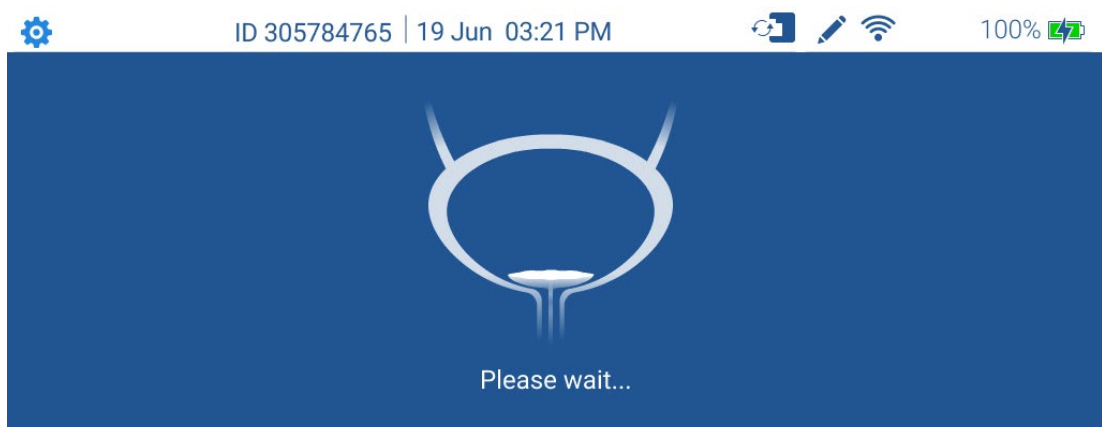
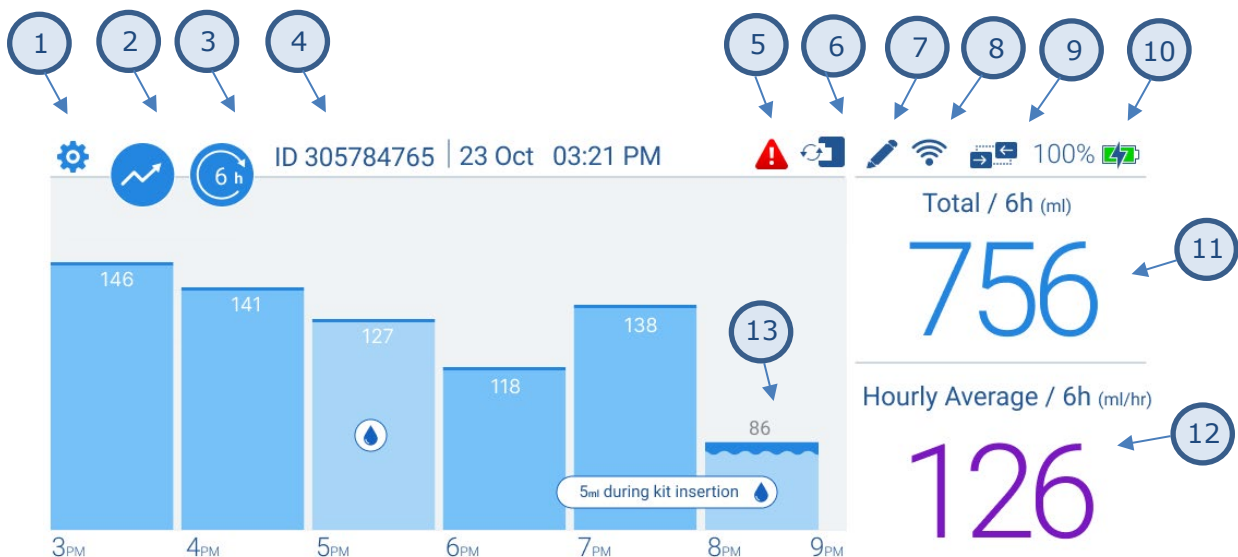

Figure 14 – Initialization in Progress Screen
Figure 15 – Patient Monitoring Screen – bar chart display
During initialization (Figure 14), residual urine in the bladder will be emptied. The volume emptied will be displayed at the end of the animation and can also be viewed in the monitoring display when pressing the drop icon (Figure 15). This amount will be included in the hourly total.
The bar chart display (Figure 15) presents the total urine output per hour (ML). The trendline display presents minute-by-minute urine flow rate (ML/HR) (see Figure 16).
To monitor patient response to different interventions such as fluid boluses, diuretics, vasopressors, or inotropes, press the pencil icon in the upper toolbar (See Figure 15 label 11). In the pop-up window, insert intervention time and type and press Save (Figure 17). Intervention will be marked on the trendline (Figure 18).